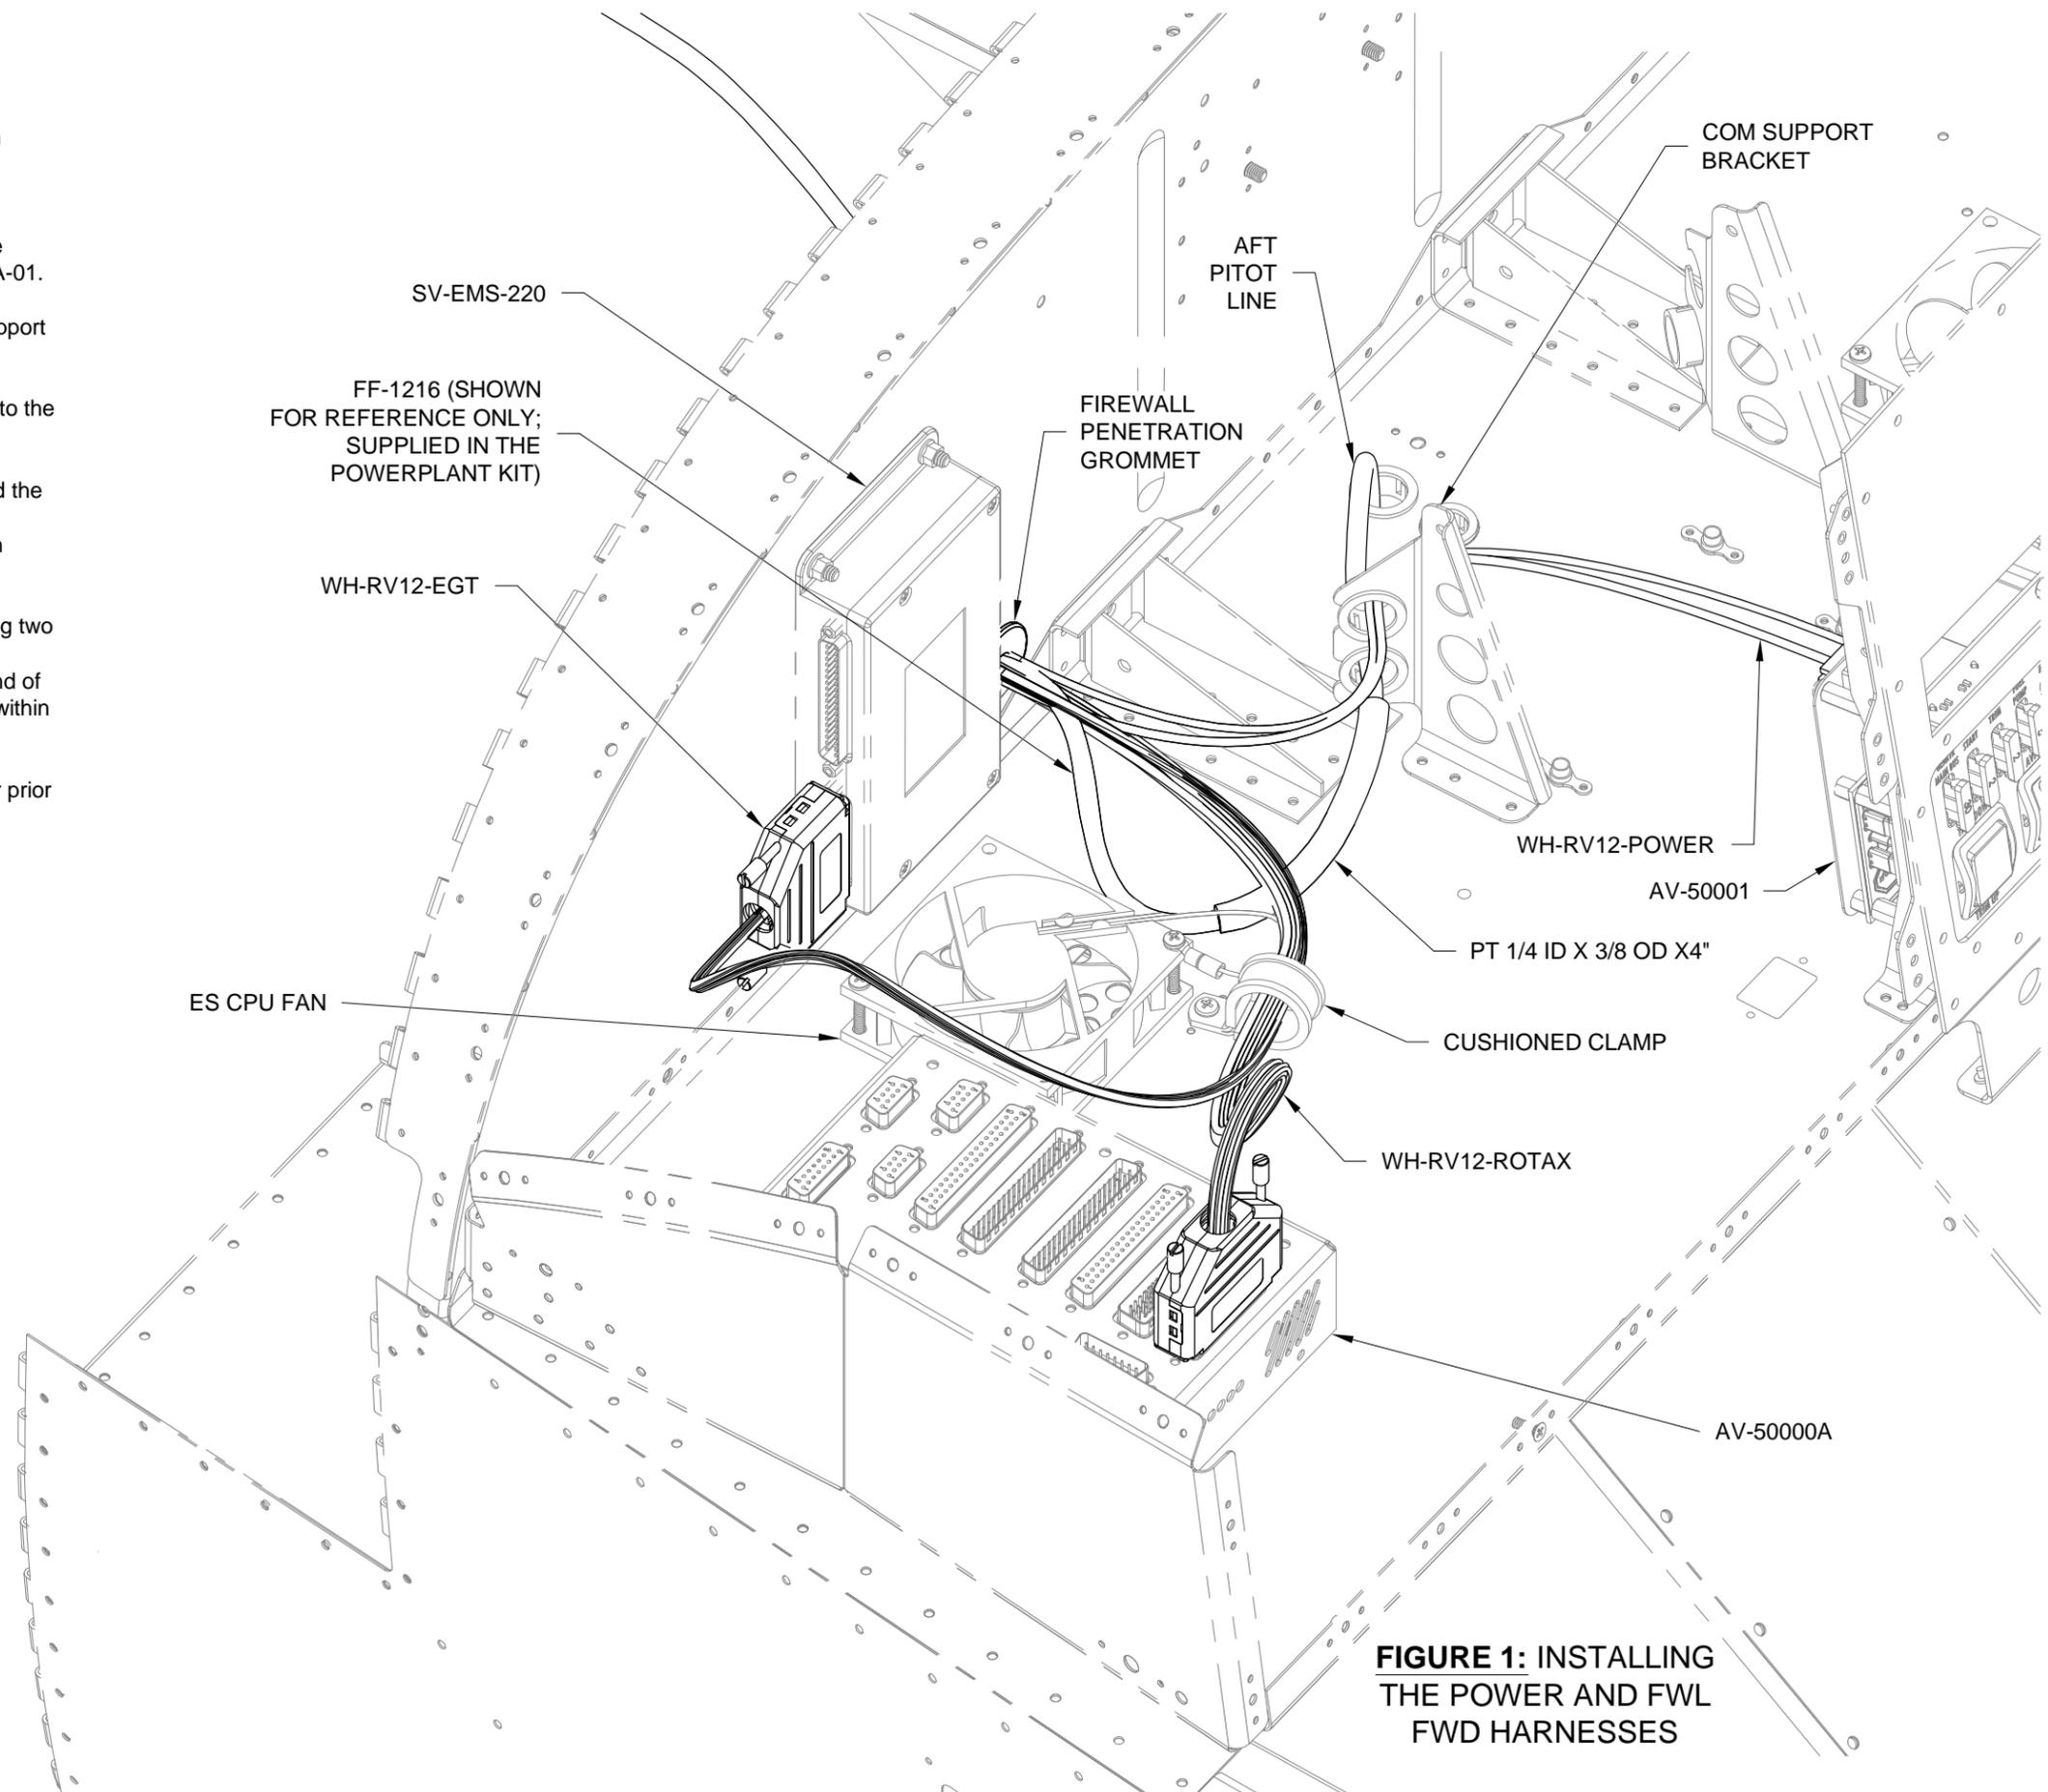

FIGURE 1: INSTALLING THE POWER AND FWL FWD HARNESSSES
Step 3: Install the WH-RV12-EGT Exhaust Gas Temp Wiring Harness to the SV-EMS-220 Engine Monitoring Module as shown in Figure 1.
Step 4: Route the Aft Pitot Line forward through bulkheads from behind the F-1204 Center Section Assembly (see Page 42D-03) up through the F-1202B Panel Base and through the com support bracket as shown in Figure 1.
Step 5: Install the PT 1/4 ID X 3/8 OD X4" Pitot Tube Joiner by inserting two inches of the Aft Pitot Line into one end of the pitot tube joiner. If the FF-1216 Pitot Line has already been installed, insert it into the other end of the pitot tube joiner until the ends of the pitot line and aft pitot line are within 1/4 inch of each other. See Figure 1.